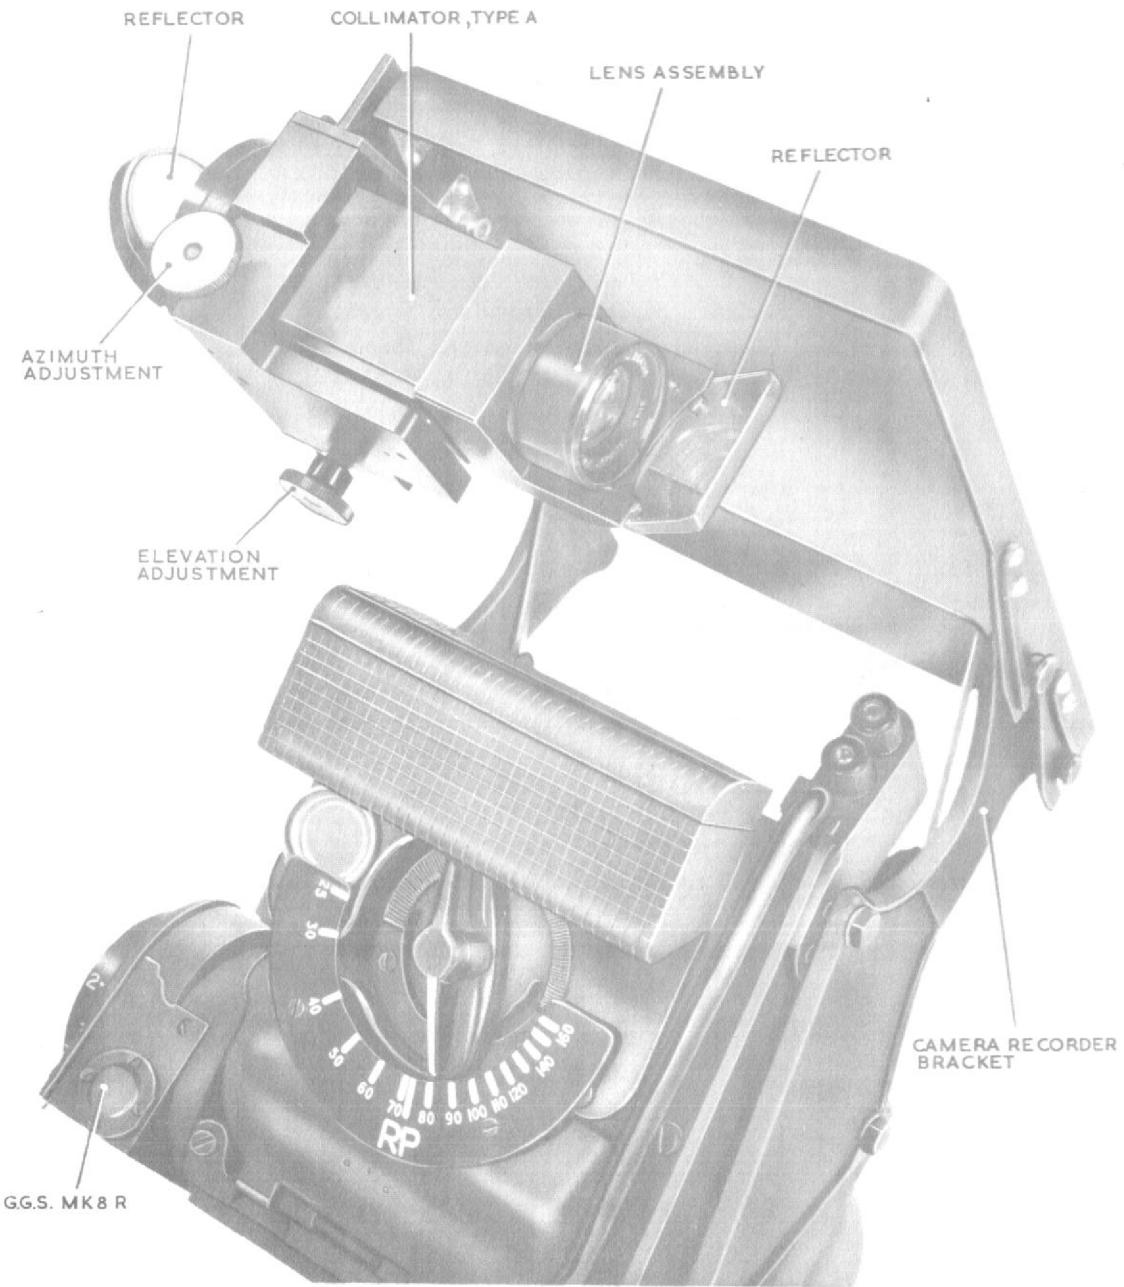

Fig.1 Collimator, Type A fixed to sighting head
- (1) Fit the collimator, Type A to the camera recorder brackets (fig.1).
- (2) (a) Select G1.
- (3) (a) Select G2.
- (b) Repeat (2) (b) and (2) (c).
- (4) (a) Select B.